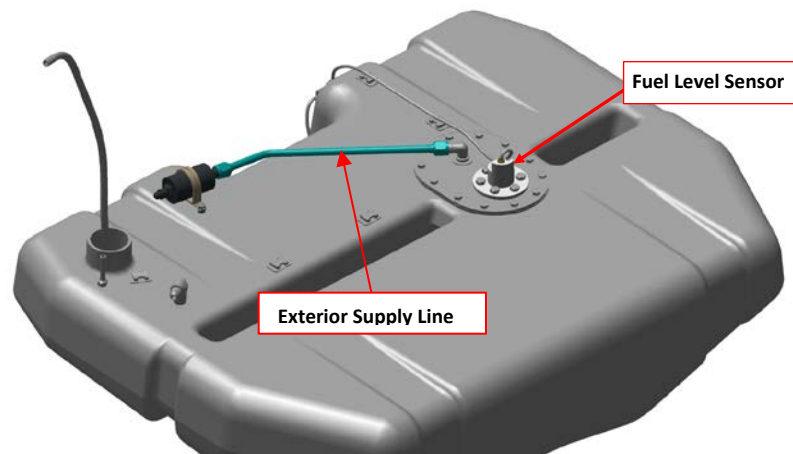

Figure 4: Fuel tank supply line
4. Disconnect exterior supply line. Refer to Figure 4.
11. Reconnect exterior supply line. Torque to 110-130 inch-lb. Refer to Figure 4.